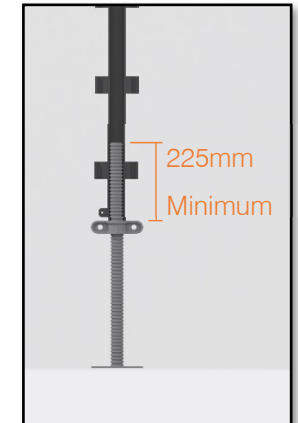

Fig. 16 – Min. Insertion
9.1.3.3 **Warning:** 225mm of thread minimum must be inside the Node Post. Use timber packers if more adjustment is required. *Fig. 16 – Min. Insertion*